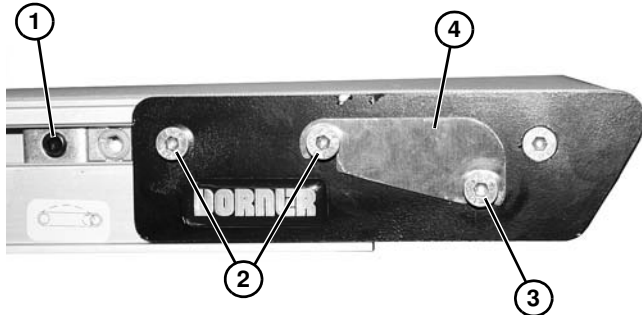
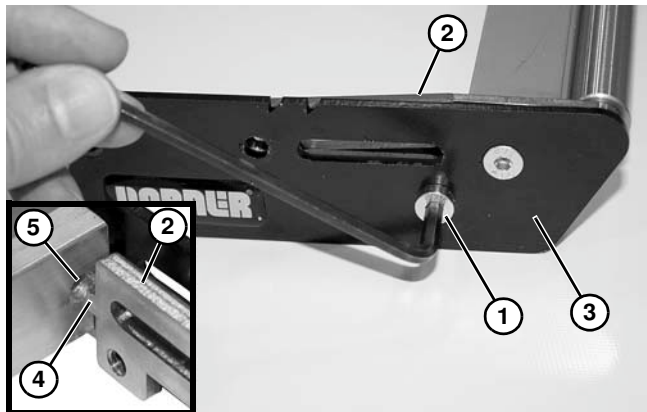

Figure 106
Figure 107
1. On both sides of conveyor, loosen cam fastening screw (**Figure 106, item 1**) (if equipped) and slide cam assemblies toward the center of the conveyor.
2. On both sides of conveyor, loosen fastening screws (**Figure 106, item 2**) to remove belt tension. Remove belt from end of conveyor.
3. On both sides of conveyor, loosen fastening screw (**Figure 106, item 3**) and remove dust cover (**Figure 106, item 4**) (if equipped).
4. Remove nosebar tail from the conveyor and place on an open work surface. On one side of nosebar tail, remove two fastening screws (**Figure 106, item 2**).
5. Remove lower screw (**Figure 107, item 1**) and remove tail nut bar (**Figure 107, item 2**) and side plate (**Figure 107, item 3**).
During reassembly, make certain that the tail nut bar nipple (**Figure 107, item 4**) is inserted into the support bar hole (**Figure 107, item 5**).
10. Assemble and install head plate in reverse order of removal. Use a 4 mm hex-key wrench to tighten lower screw (**Figure 107, item 1**) to 30 in-lb (3.4 Nm). Leave two fastening screws (**Figure 106, item 2**) loose for belt tensioning.